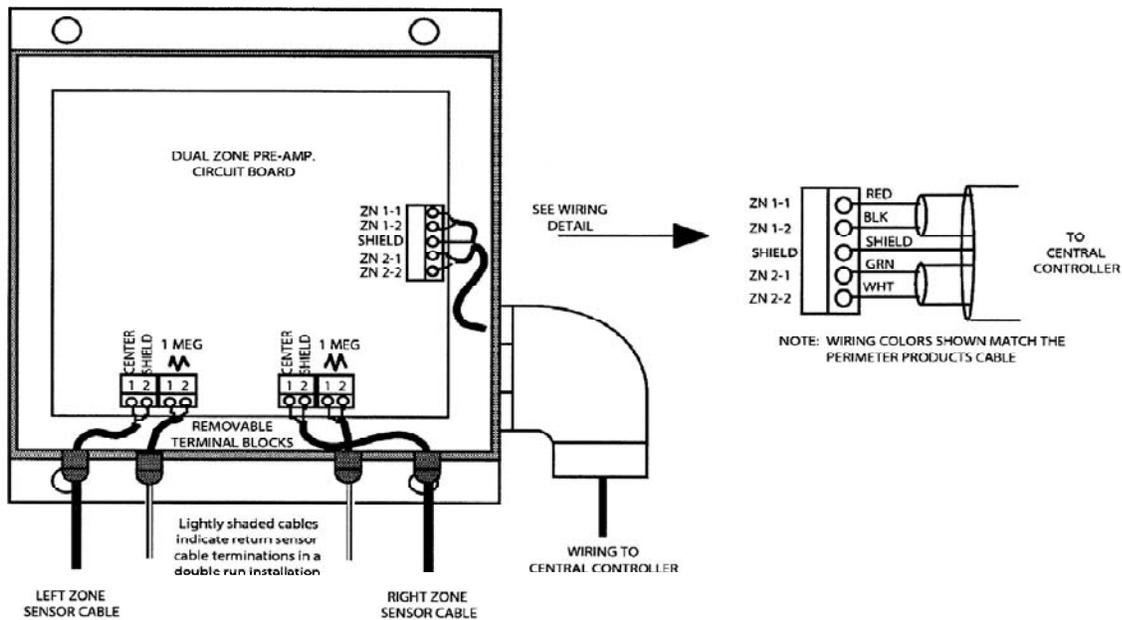

Figure 13. Pre-Amp Cable Connections
- Connect each sensor cable to the Pre-Amp as shown in Figure 13.
- Connect the control wiring to each dual zone pre-amp as shown in Figure 13.